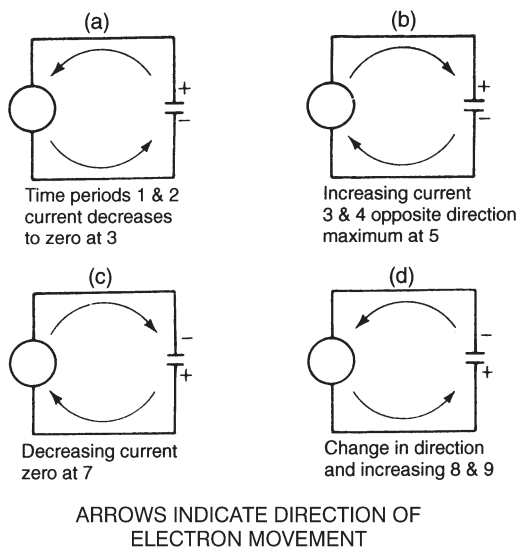

FIGURE 10–6 Current flow, as related to Figure 10–5.
- At time position 8, current flow has again changed direction. The voltage across the capacitor starts to decrease (Figure 10–6d).
- At time position 9, current flow is maximum. The voltage across the capacitor rapidly passes through zero, and the capacitor starts to charge. This completes one cycle of AC in a span of a second. This means that there are 60 repeats each second in the graph in Figure 10–5.